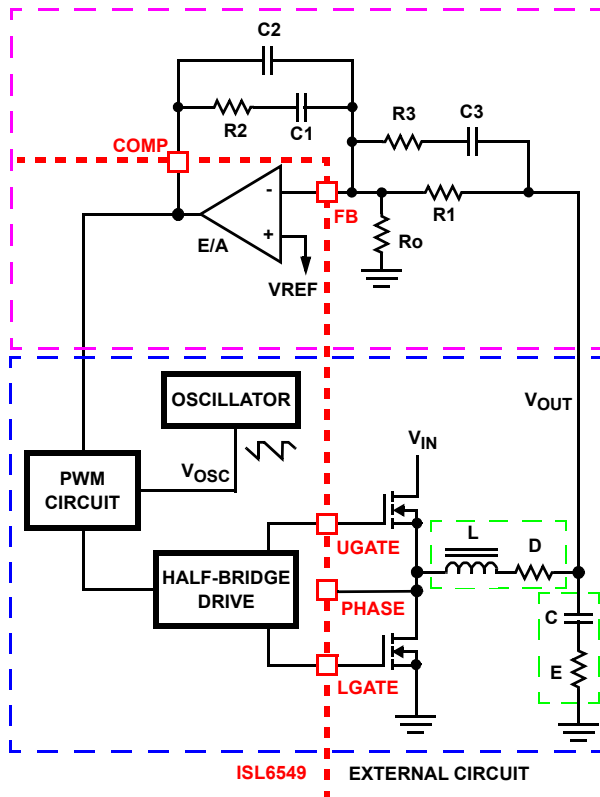

FIGURE 10. VOLTAGE-MODE BUCK CONVERTER COMPENSATION DESIGN
Figure 10 highlights the voltage-mode control loop for a synchronous-rectified buck converter, applicable to the ISL6549 circuit. The output voltage (VOUT) is regulated to the reference voltage, VREF. The error amplifier output (COMP pin voltage) is compared with the oscillator (OSC) modified saw-tooth wave to provide a pulse-width modulated wave with an amplitude of VIN at the PHASE node. The PWM wave is smoothed by the output filter (L and C). The output filter capacitor bank's equivalent series resistance is represented by the series resistor E.
The compensation network consists of the error amplifier (internal to the ISL6549) and the external R1-R3, C1-C3 components. The goal of the compensation network is to provide a closed loop transfer function with high 0dB crossing frequency (F0; typically 0.1 to 0.3 of FSW) and adequate phase margin (better than 45 degrees). Phase margin is the difference between the closed loop phase at F0dB and 180°. The equations that follow relate the compensation network's poles, zeros and gain to the components (R1, R2, R3, C1, C2, and C3) in Figure 10.
1. Select a value for R1 (1kΩ to 5kΩ, typically). Calculate value for R2 for desired converter bandwidth (F₀). If setting the output voltage via an offset resistor connected to the FB pin, R_o in Figure 10, the design procedure can be followed as presented.